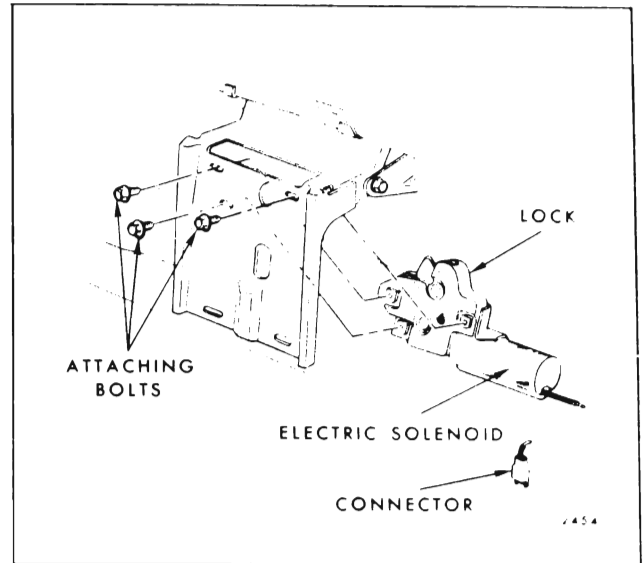

Fig. 8-22 — Rear Compartment Electric Release Unit
2. Remove bolts securing rear compartment lid lock assembly to rear compartment lid anchor plate (Fig. 8.22).